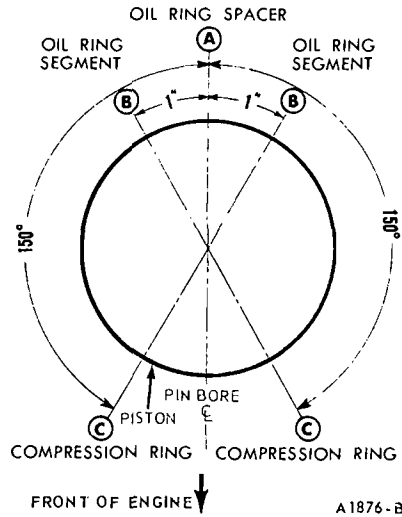
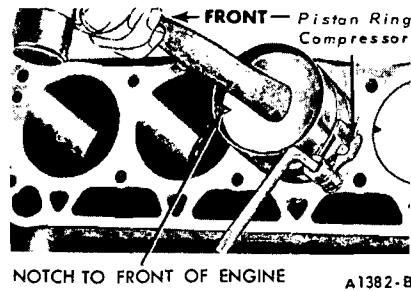

FIG. 43—Piston Ring Gap Spacing
FIG. 44—Piston Installation
4. Make sure the ring gaps are properly spaced around the circumference of the piston (Fig. 43). Install a piston ring compressor on the piston and push the piston in with a hammer handle until it is slightly below the top of the cylinder (Fig. 44). Be sure to guide the connecting rods to avoid damaging the crankshaft journals. **Install the piston with the notch in the piston head toward the front of the engine.**